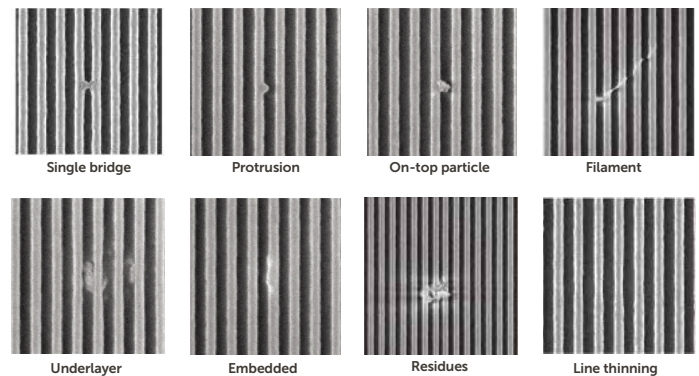

Figure 2. Defect library used in this work.
**Defect library:** defects were classified as in the defect library reported on Figure 2.